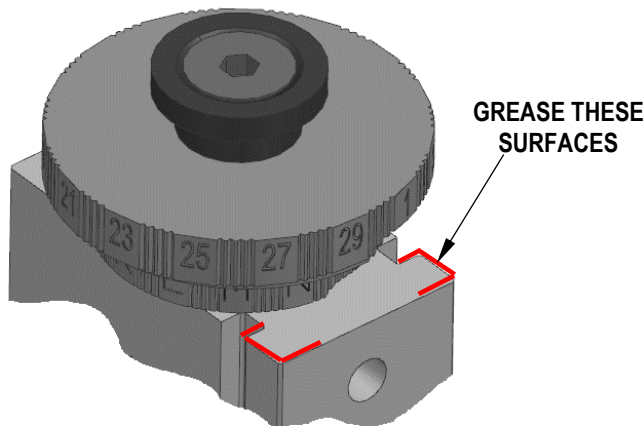

Figure 5.2.2
3. For newer FA2 applicators without grease fitting, use a brush to apply grease to ram surfaces shown in Figure 5.2.2.